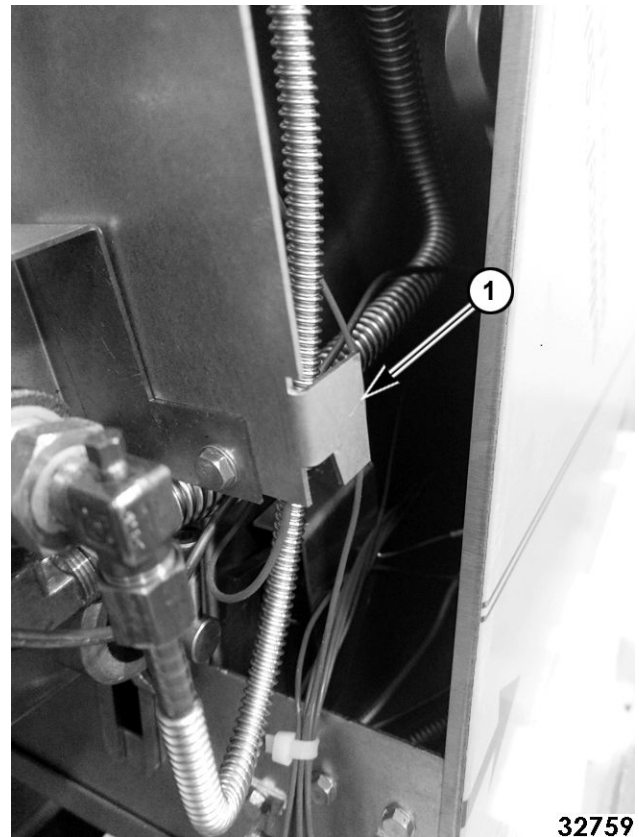

**Fig. 2**
5. Disconnect flex line (1, Fig. 2) from top of temperature control.